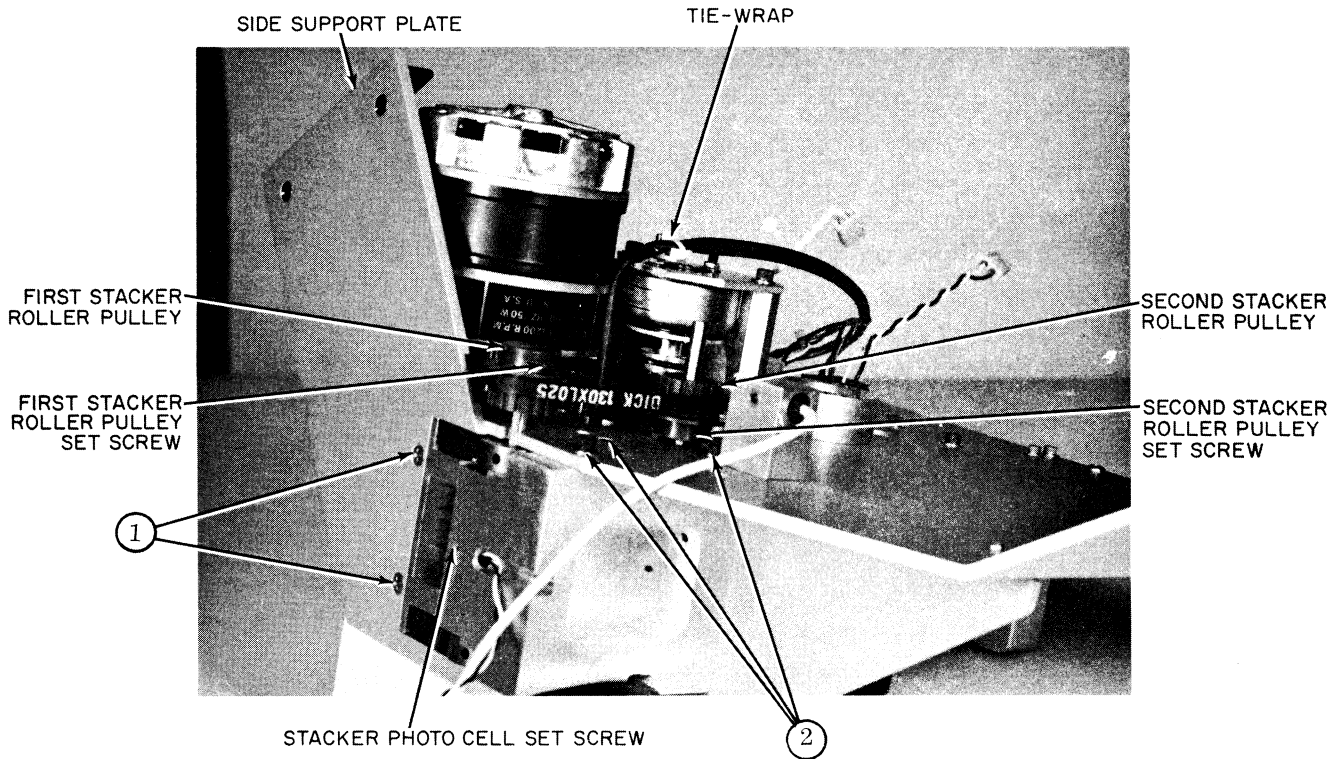

Figure 9-9. Side View, Main Mounting Plate
3. Using a Phillips screwdriver, remove two screws $\bar{1}$ holding side support plate, figure 9-9.
8. Using a 3/32 Allen wrench, LOOSEN set screws in two stacker pulleys, figure 9-9. Remove pulleys.
- d. Using a 1/16 Allen wrench, LOOSEN set screw in stacker casting holding stacker photocell and remove photocell, figure 9-9. Read head assembly is now free.